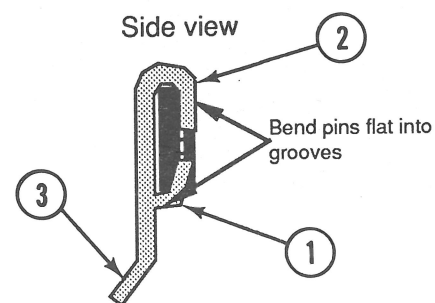

FIGURE 8
- c) Wrap and press the bottom middle pin (Figure 8, #1) of the interrupter, from the underside of the belt, into the fourth groove.
- d) Wrap and press the two upper pins (Figure 8, #2) of the interrupter, from the top side of belt, in the corresponding grooves on the belt.
Note: Make sure the long tang (Figure 8, #3) of the interrupter is pointing down toward the base plate of the printer.